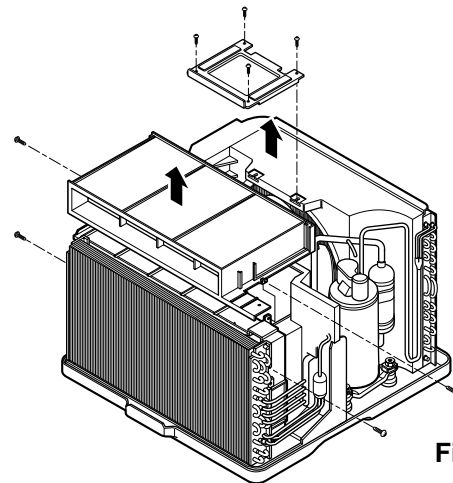

Figure 17
7. Remove the air guide upper. (See Figure 17)